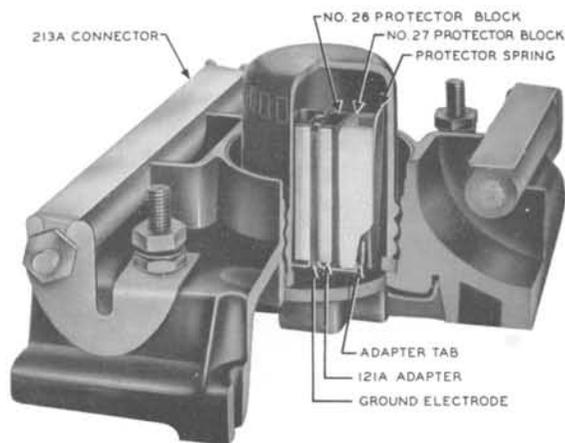

FIG. 14—CONVERTED 98A PROTECTOR USING 121A ADAPTERS AND 213A CONNECTORS
7.03 For conversion of 98A protectors that are in service, see Figs. 14 and 15 and use Table C. Connectors may be omitted as specified in 7.05.